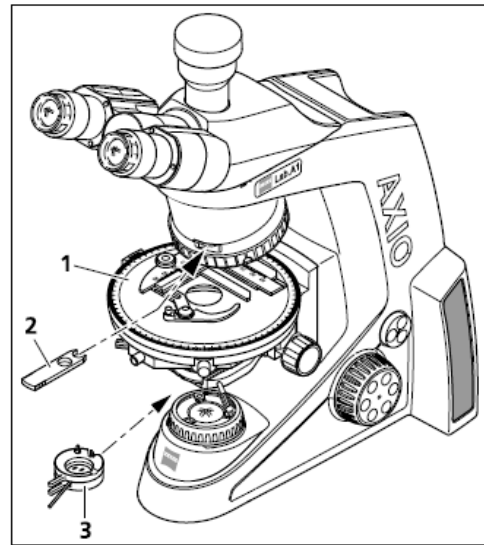

Fig. 4-5 Components for transmitted light polarization
- Set the microscope as in the transmitted light brightfield according to KÖHLER (see Section 4.1.1 (3)).
- Center rotary stage Pol (Fig. 4-5/1) (see Section 3.1.8.5) and objectives (see Section 3.1.8.6).
- Swivel polarizer (Fig. 4-5/3) into the light path and, if it is rotatable, position it at 0°.
- Insert the analyzer slider (Fig. 4-5/2) into the slit for compensators (if tube does not already have an analyzer). The field of view will appear dark due to the crossed polarizers. With screw-on analyzers, care must be taken to ensure that they are aligned with polarizer D (i.e. crossed position).
- Then swivel the polarizer, rigidly fixed to the lambda plate (445226-0000-000) (Fig. 4-5/3) into the beam path.
- Insert the analyzer slider (Fig. 4-5/2) into the slit for compensators.
- Rotary stage Pol (Fig. 4-5/1)
- Center rotary stage Pol (Fig. 4-5/1) and objectives (see Sections 3.1.8.5 and 3.1.8.6).
- Swivel polarizer (Fig. 4-5/3) into the light path and, if it is rotatable, position it at  $0^\circ$ .
- Insert the analyzer slider (Fig. 4-5/2) into the slit for compensators (if tube does not already have an analyzer). The field of view will appear dark due to the crossed polarizers. If not, align the analyzer in the tube or the intermediate plate.